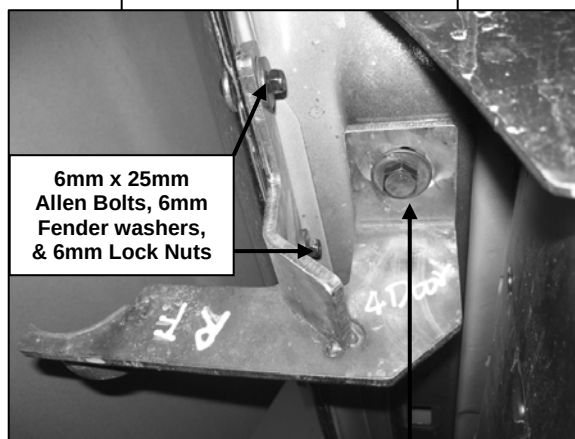

Figure 2
4. Attach the Front Passenger Side Mounting Bracket to the side panel by using the included (1) 10-1.50mm x 25mm Hex Head Bolt, (1) 10mm Lock Washer, and (1) Fender Washer (Figure 2). Do not tighten at this time.